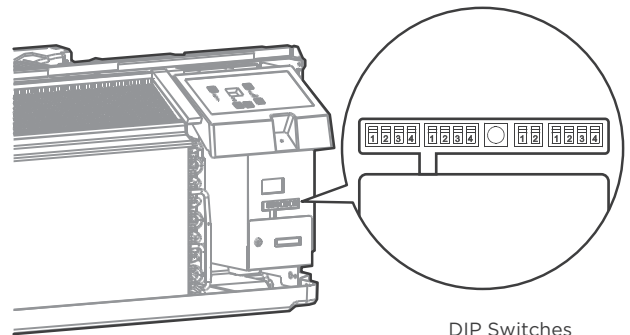

Fig.3
- Dip switches are accessible without opening the control box. See Fig.3.